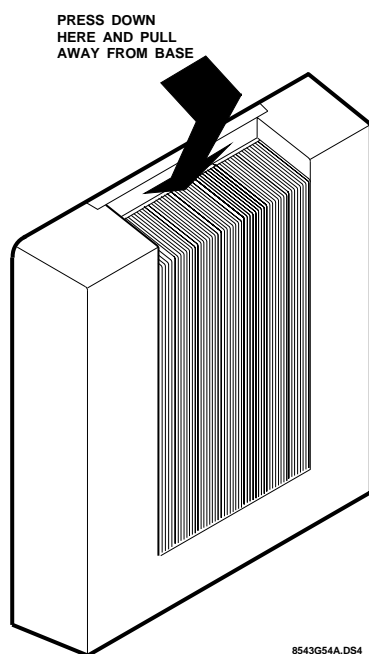

Figure 2. Removing the Cover
2. Remove the cover and set it aside (Figure 2).